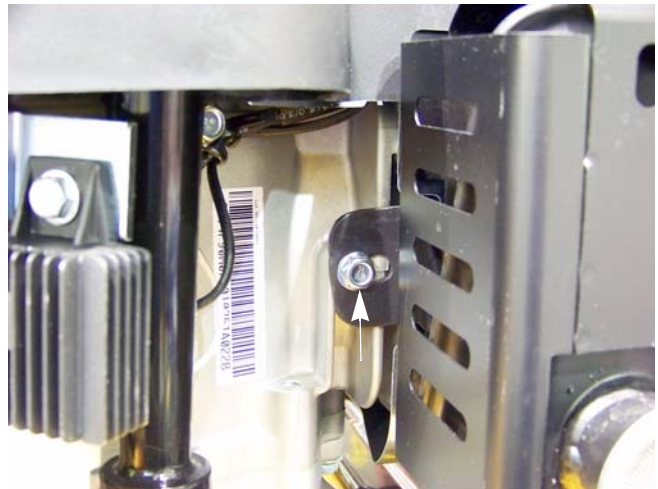

Figure 8.4
3. Remove the screw, indicated by the arrow in Figure 8.4. that secures the rear of the muffler to the engine block using a 10mm wrench.
4. Remove the two nuts that hold the manifold pipe to the cylinder head using a 13mm wrench. See Figure 8.4.